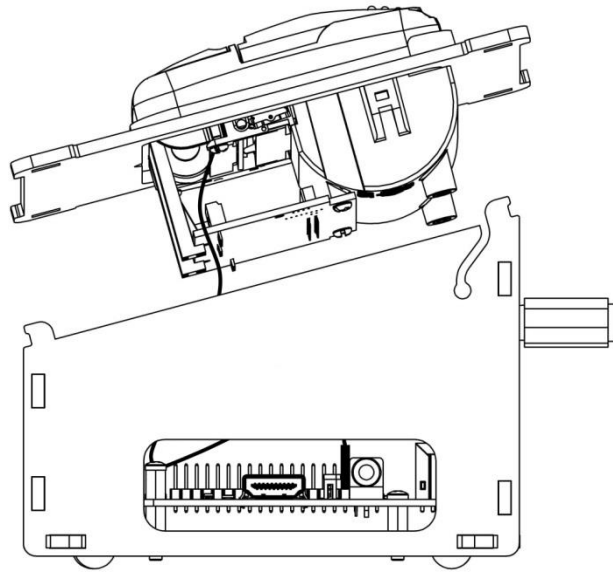

Figure 10
- 18) Offer-up the right-hand side plastics to the assembly. Ensuring that the PSA Cable remains in place, locate the side plastics on the back tabs. Register the side plastics on the back base snap hook first, and bring the side plastics onto the front tabs, finally clipping the side in place on the front base snap hooks as shown in *Figure 10*.